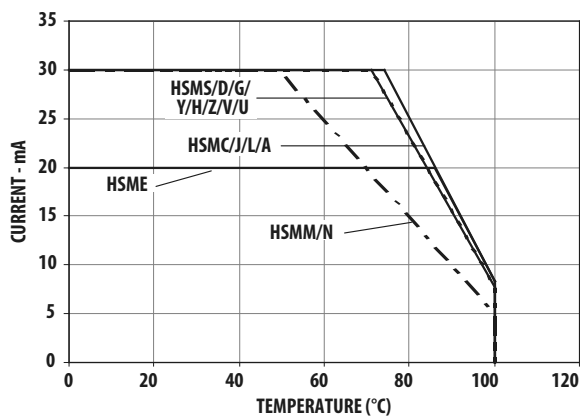

Figure 4. Maximum forward current vs. ambient temperature. Derated based on $T_{jMAX} = 110^{\circ}\text{C}$, $R_{\theta JA} = 500^{\circ}\text{C/W}$.
1. Derate linearly as shown in Figure 4.